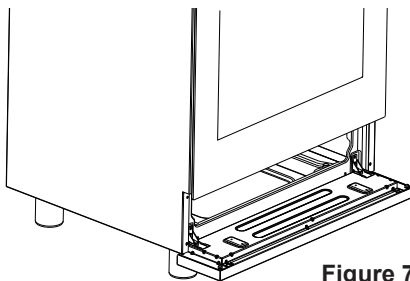

Figure 7
- Open the pivoting panel (fig. 7).